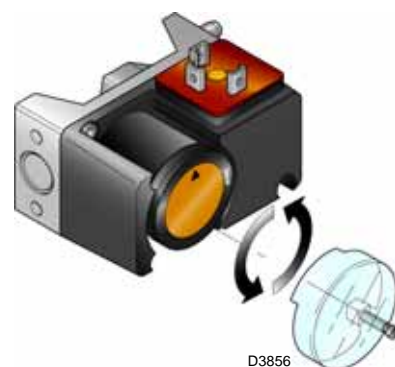

Fig. 31
- Adjust the maximum gas pressure switch (Fig. 31 at page 32) to the end of the scale.
Adjust the maximum gas pressure switch (Fig. 31) after having performed all other burner adjustments with the maximum gas pressure switch set to the end of the scale.